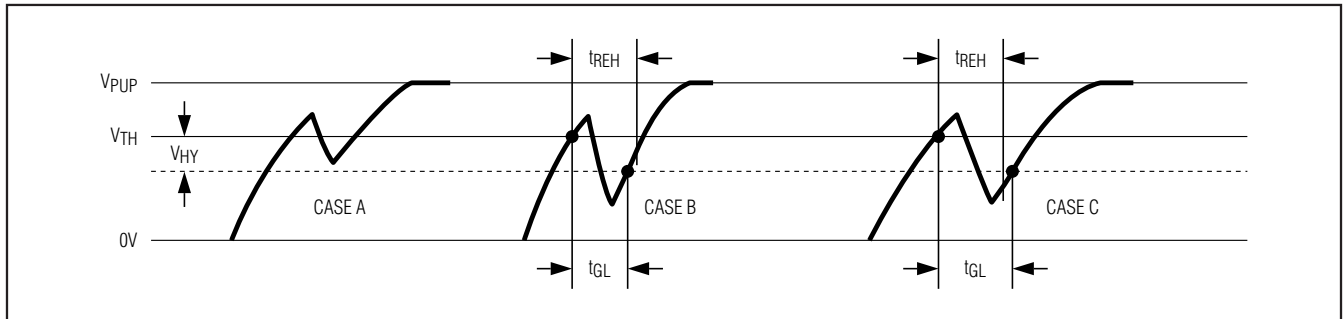

Figure 14. Noise Suppression Scheme
- 3) There is a hysteresis at the low-to-high switching threshold  $V_{TH}$ . If a negative glitch crosses  $V_{TH}$  but does not go below  $V_{TH} - V_{HY}$ , it is not recognized (Figure 14, Case A). The hysteresis is effective at any 1-Wire speed.
- 4) There is a time window specified by the rising edge hold-off time  $t_{REH}$  during which glitches are ignored, even if they extend below  $V_{TH} - V_{HY}$  threshold (Figure 14, Case B,  $t_{GL} < t_{REH}$ ). Deep voltage droops or glitches that appear late after crossing the  $V_{TH}$  threshold and extend beyond the  $t_{REH}$  window cannot be filtered out and are taken as the beginning of a new time slot (Figure 14, Case C,  $t_{GL} > t_{REH}$ ).